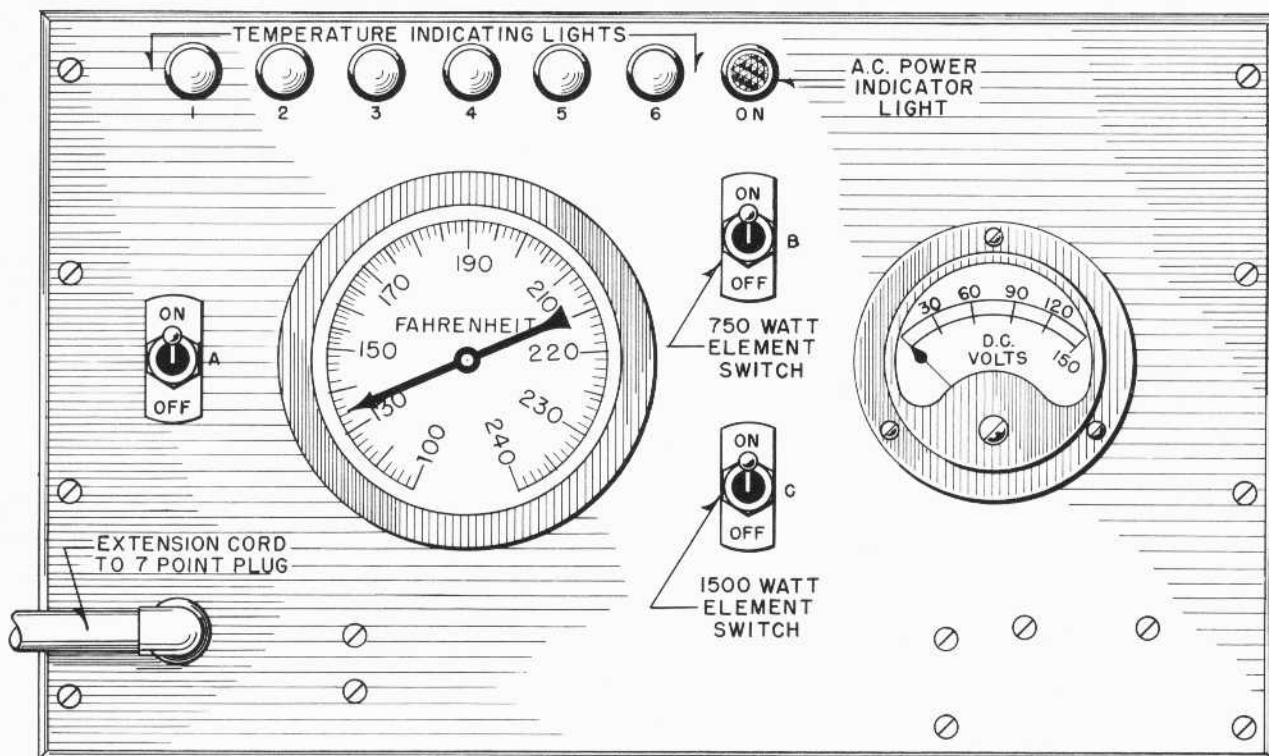

Fig. 3 - Control Panel For Temperature Control Switch Test Stand
The assembly should be tested at periods as outlined in Maintenance Instruction 1704. A suitable testing device (which may also be used for testing the vernatherm thermostat switch assembly 8097916) may be constructed according to Maintenance File Drawing 351. The testing device control panel is shown in Fig. 3. These drawings may be obtained upon request to your Electro-Motive regional Sales or Service representative. Export customers may make their request to Service Manager, Locomotive Products, General Motors Overseas Operations, New York.
3. Insert the 7 point plug into the receptacle on the thermostat and set switch "A," Fig. 3. If testing mercury type temperature switch assembly, switch "A" should be ON and ballast lamp will light. In either case the DC voltmeter should indicate 74-76 volts available to operate the panel indicating lights.